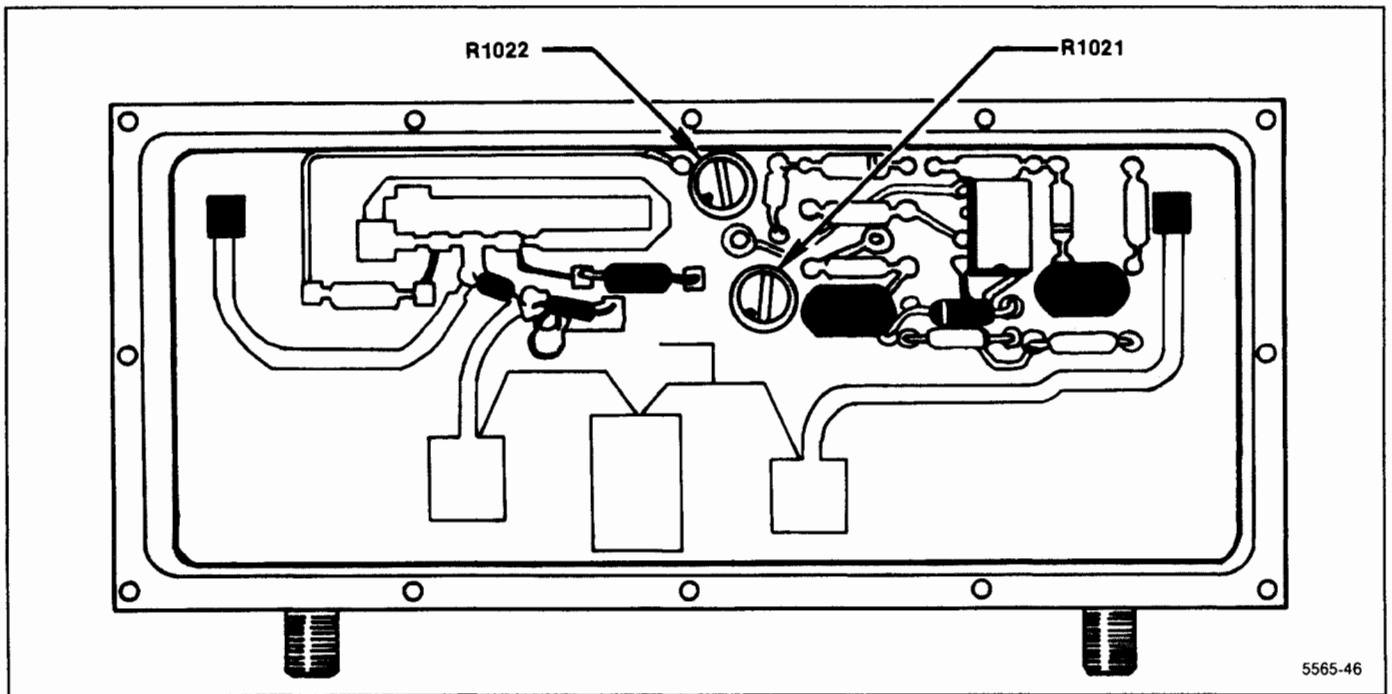

Figure 6-11. 2072 MHz Converter bias adjustments.
**Mixer—**To gain access to the Bias adjustments, remove the assembly from its mounting; then remove the mounting plate on the bottom of the assembly. Reconnect the Mixer to the input/output lines, using the same cables (cable length of semi rigid cables is critical). Apply the CAL OUT signal to the RF INPUT and tune a marker to center screen. Simultaneously adjust both bias potentiometers, R1021 and R1022, (see Figure 6-11) for maximum signal amplitude.